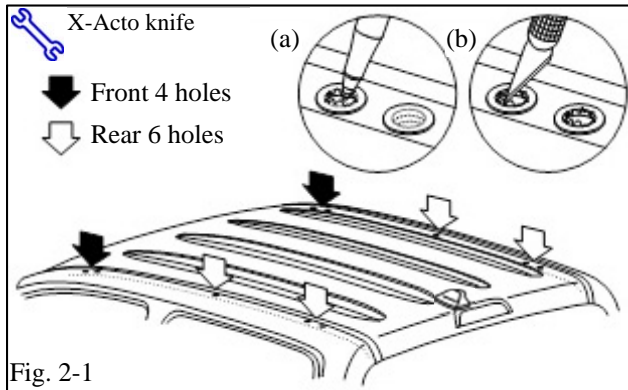

Fig. 2-1
- (a) Use a finger to locate the tape that covers the 10 weld nuts (5 LH & 5 RH) and press down to create a dimple at each location (Fig. 2-1).
- +** (b) Use an X-Acto knife or deburring tool to carefully remove all seal material in the FRONT 4 HOLES ONLY (2 RH & 2 LH) to expose the weld nut (Fig. 2-1). Ensure no seal material is in the cavity near the threads.